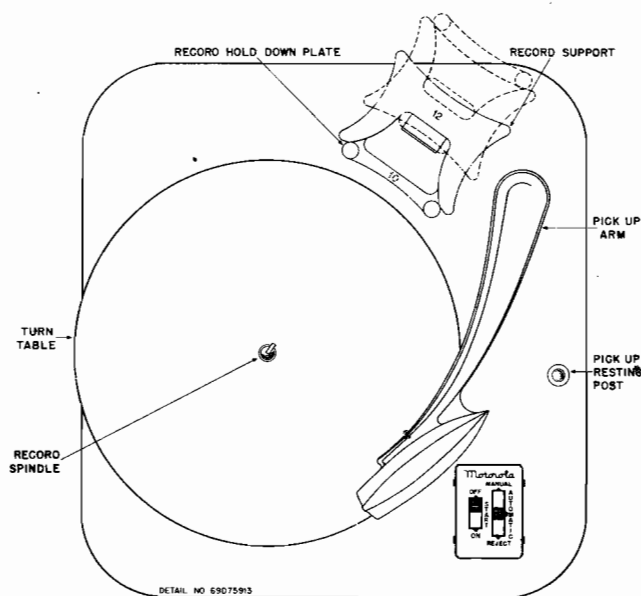

FIGURE 5. RECORD CHANGER TOP VIEW
The tuning of the record support automatically adjusts the changer for either ten or twelve inch records. For playing ten-inch records the numeral (10) will be nearest the record spindle. (See Figure 5).
This plate or flipper is mounted on the record support, (See Figure 5), and serves to steady the stack of records. Flip it away from the turntable.
2. Push the left hand button in the lower right hand corner in the direction indicated by the START arrow to the ON position. (See Figure 5).
2. Push the right hand button to the "MANUAL" position. (See Figure 5).